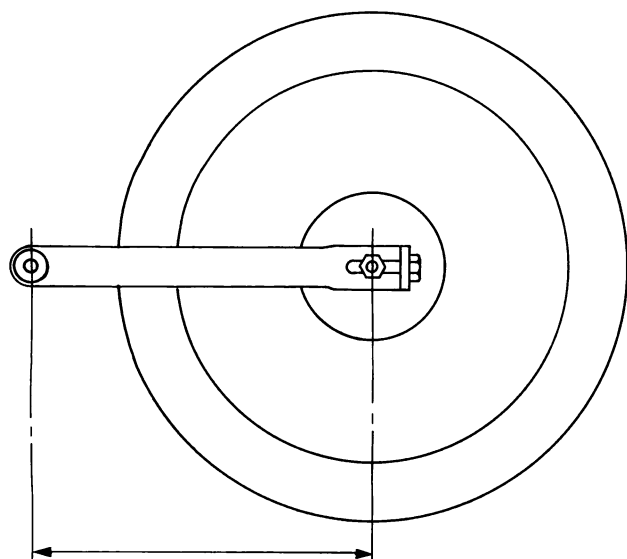

**Fig. 19-12** Chain sprocket alignment (Intertech Publishing Corporation)
**Chain Sprocket Alignment.** If the chain tends to cling or favor one side of the sprocket, this is an indication that the rear axle may be out of alignment. Compensate for this misalignment by loosening the appropriate chain adjuster until the chain is centered on the rear sprocket as it spins (Fig. 19-12).